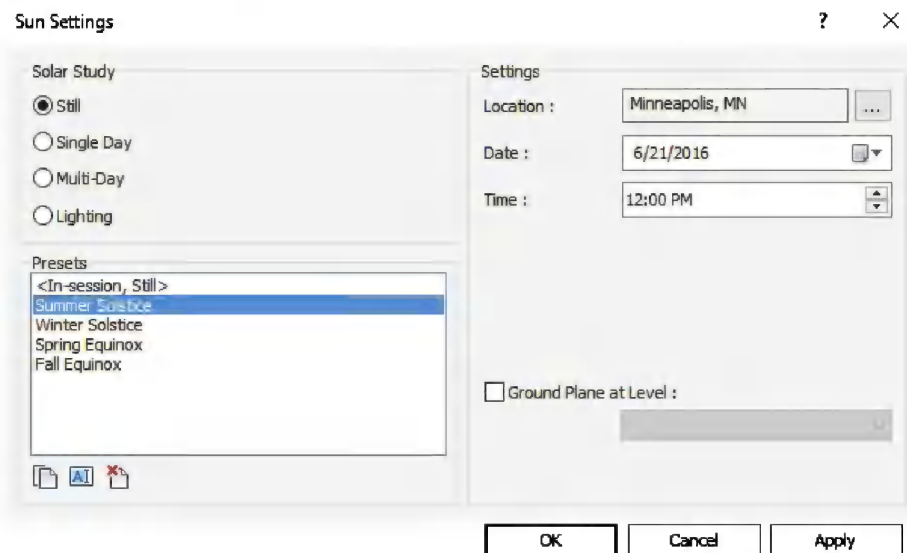

FIGURE 13-2.9 Sun Settings dialog
22. Make the following changes (Figure 13-2.9).
26. In the *Lighting* section, set the *Sun* set to **Summer Solstice**. (This relates to the settings in Figure 13-2.9.)
Looking back at Figure 13-2.9, you would click *Duplicate* and provide a name. This name would then be available from the *Sun* drop-down list in the *Render* dialog box.